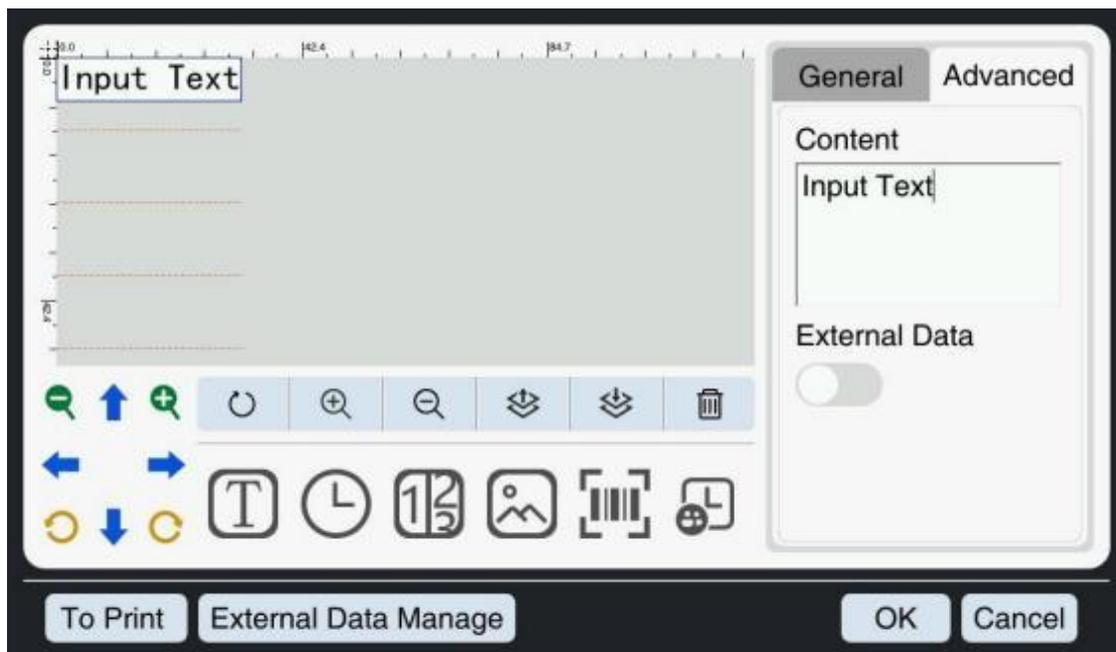

Figure 5-4 File Editing Interface
2、 Clicking the **Create File** button, then enter the file editing interface. As shown in Figure 5-4. In this interface, you can enter the required information according to your own requirements.